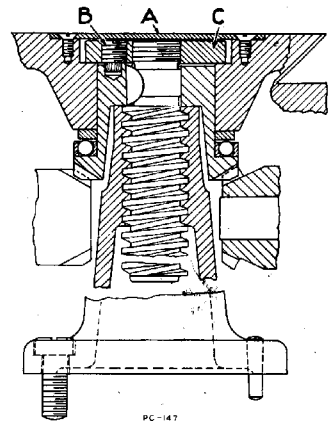

Fig. 4
2. Remove circular plate "A" on top of the knee. (Fig. 4.)